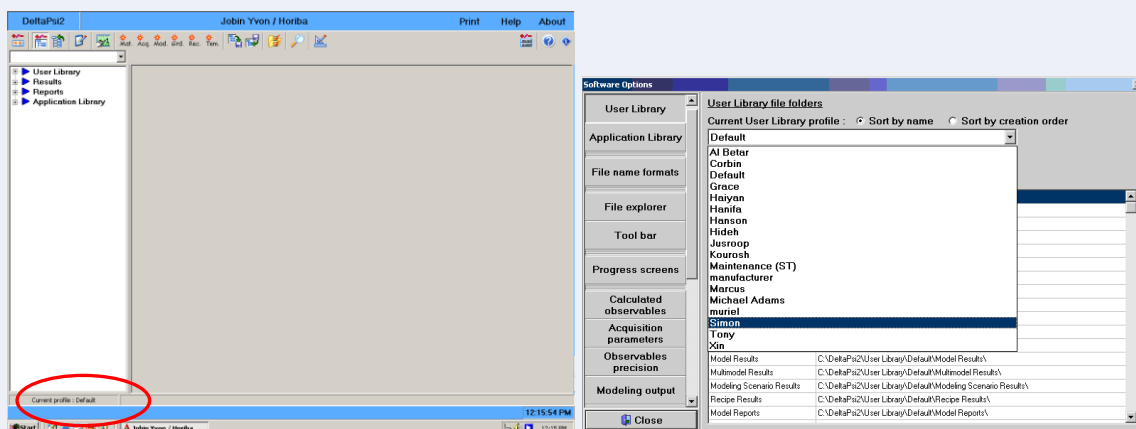

Fig. 2
Make sure you are in your own user library. The current user can be seen in the lower left corner of the screen (Fig 2, left). If you are not the current user:
2. Select your name, and click **CLOSE**. See Fig. 2.